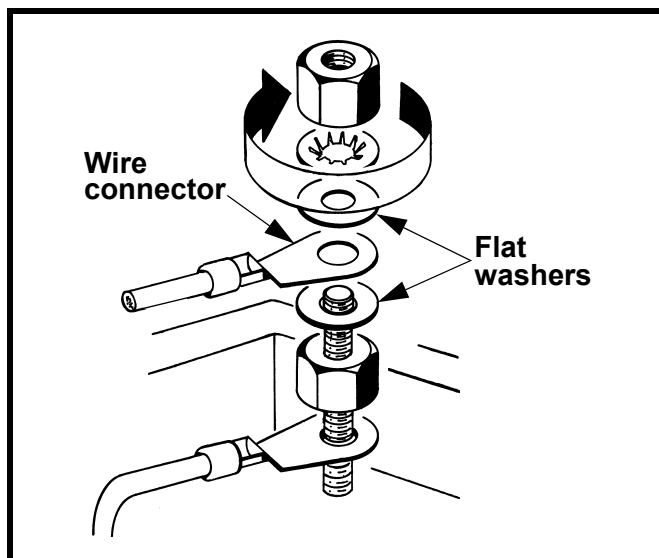

Figure 3. Installing Wire Connector
3. Install wire connector between the two flat washers. See Figure 3.